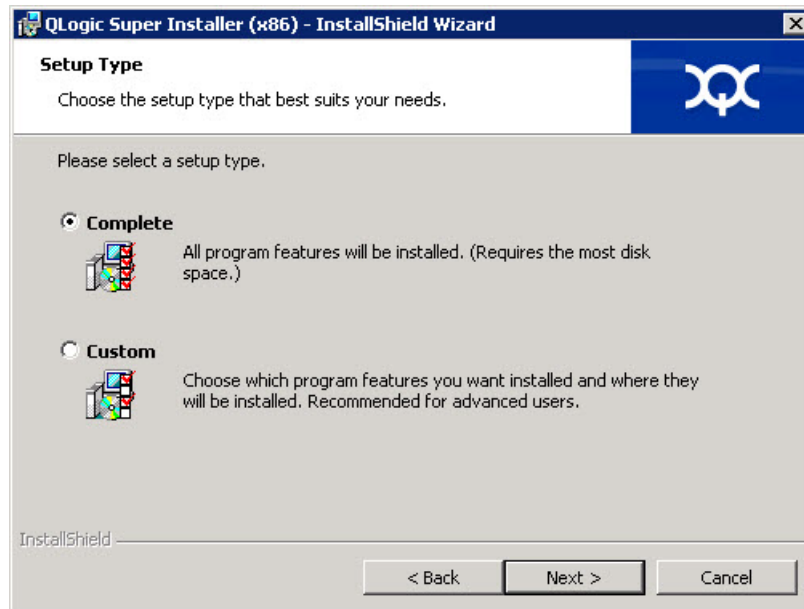

Figure 3-4. InstallShield Wizard: Setup Type Window
5. Complete the wizard's Setup Type window (Figure 3-4) as follows: